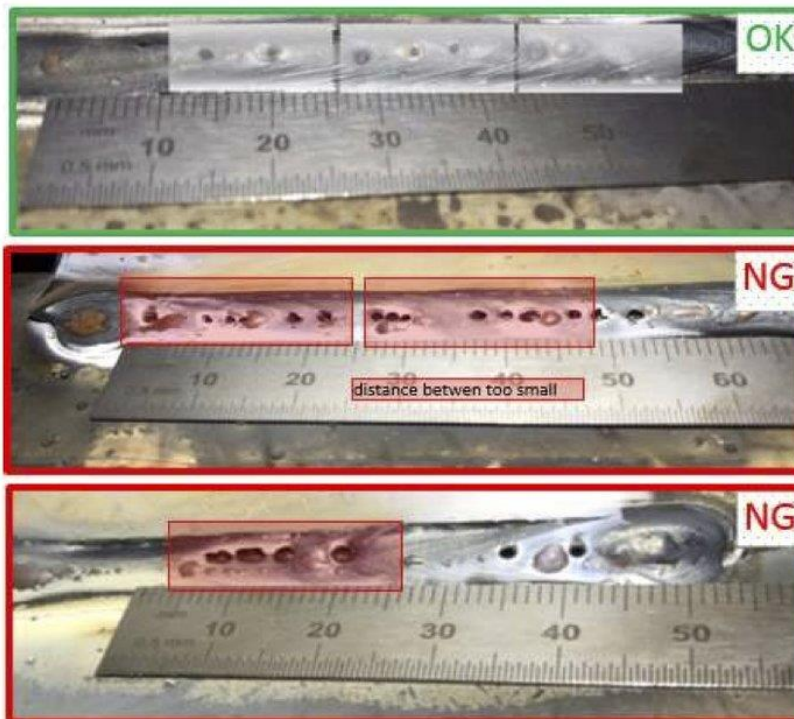

Fig 2 Porosity
2. Porosity or pinholes in weld beads. FCA welding standard does allow some porosity as it does not affect structural integrity of the joint/welded assembly. Individual pinholes separated by at least their own diameter and other scatter surface porosity is allowable. The total length of porosity (sum of diameters) cannot exceed 6.4 mm in any 25 mm of weld. Fig 2 shows examples of acceptable (OK) and not acceptable (NG) porosity.